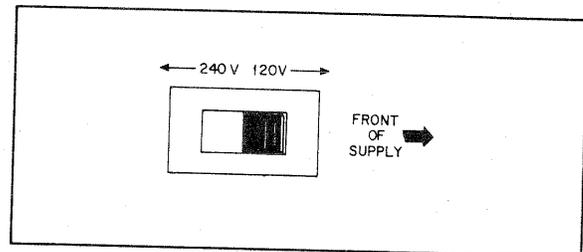

Figure 3-2. Line Voltage Selector (Set For 120Vac)
3. Set S2 to the desired position (see Figure 3-2). The forward switch position (toward front panel) selects 120Vac input and the rear switch position (toward heat sink) selects the 240Vac input.